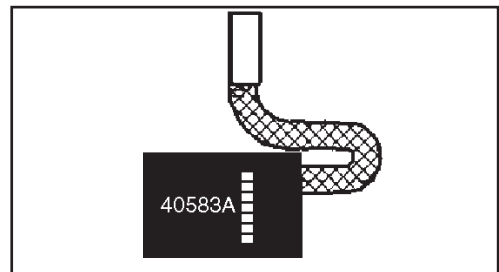

Figure 14
2. Inspect the carbon brushes. Replace both brushes if either brush has worn to 3/8" in length, or is worn to the wear indicator. See figure 14.